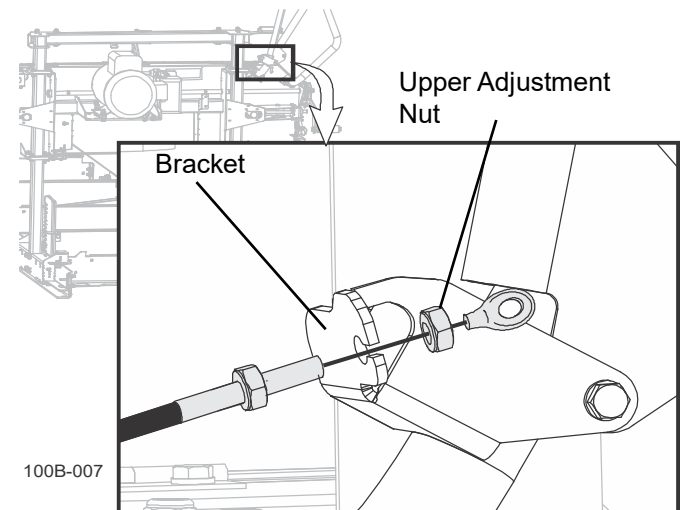

FIG. 3-27
2. Return the adjustment nut to the cable fitting. See FIG. 3-27.